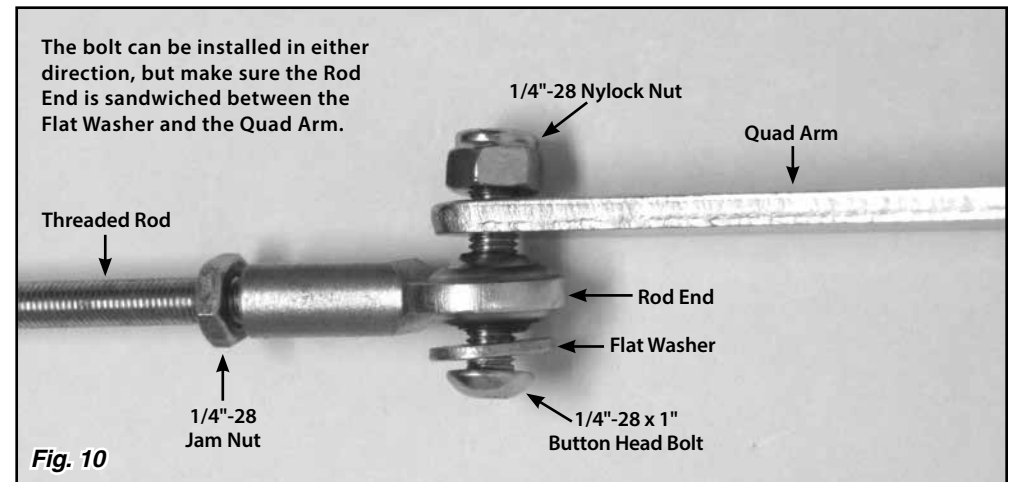

Fig. 10
Step 13: Verify that the 1/4"-28 jam nuts are still on the long threaded rod, and install the long threaded rod into the inner rod end on the linkage arm. Install a rod end onto the opposite end of the long threaded rod, and connect it to the outside of the quad arm using a 1/4"-28 x 1" button head bolt, flat washer, and nylock nut. Make sure the rod end is sandwiched between the flat washer and the quad arm. **Fig. 10**